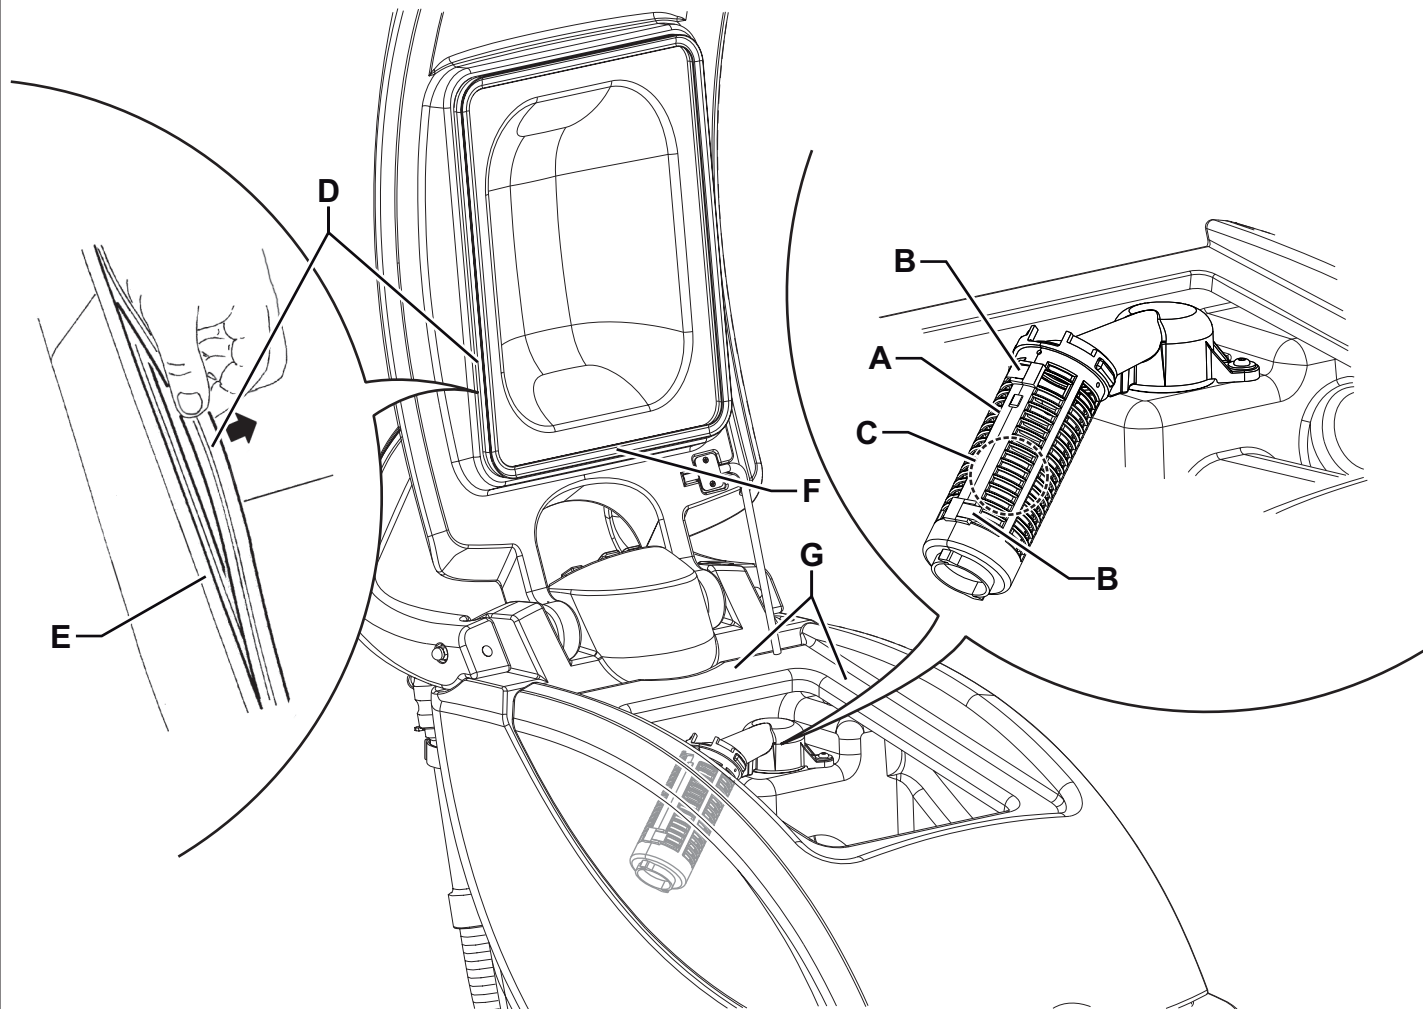

Figure 8
3. Open the recovery water cover (41), then clean and wash the cover, the tanks (30 and 31) and the vacuum grid (46) with clean water. Drain the water from the tanks with the drain hose (16) and the hose (18).
4. If necessary, release the fasteners (B, Fig. 8) and open the grid (A); recover the float (C), clean all the components and then reinstall them.
5. Check the recovery tank cover gasket (D) for integrity.